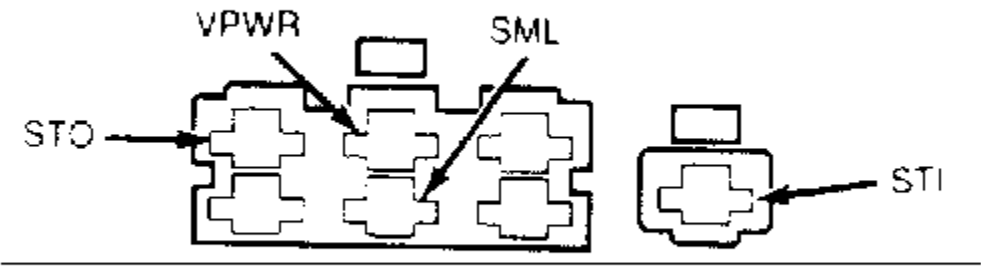

Fig. 1: Self-Test Connector Terminal ID
1. Turn ignition off. Connect a jumper wire from STI connector to ground. Refer to SELF-TEST CONNECTOR LOCATION and SELF-TEST CONNECTOR WIRE COLORS tables. See Fig. 1 .